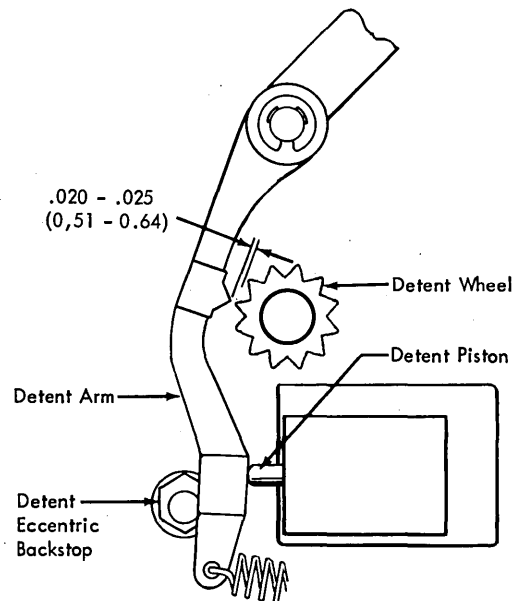

Figure 4-61. Detent Adjustment
5. Adjust the detent backstop for a clearance of .020 to .025 in. (0,51 to 0,64 mm) between the detent arm and the detent wheel when the arm is held against the backstop (Figure 4-61).